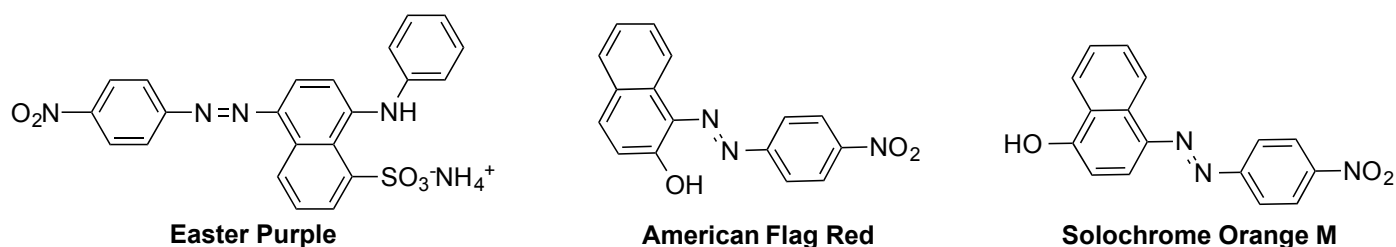

Figure 2. Examples of water-soluble azo dyes
Azo Dyes encompass the largest family of dyes. They contain an azo group, $-N=N-$, linking two aromatic rings. Because of their extended conjugated pi-orbital systems, these aromatic compounds absorb in the visible region of the electromagnetic spectrum and are deeply colored, often vibrant orange. This implies that azo dyes *absorb* relatively short wavelengths of light. TO BE USEFUL AS DYES, AZO COMPOUNDS MUST BE SOLUBLE IN WATER. This can be achieved by having polar and ionic groups attached to the aromatic rings. Sodium salts of sulfonic ($-\text{SO}_3\text{Na}$) and carboxylic ($-\text{CO}_2\text{Na}$) acids work well for this purpose. Easter purple and American flag red (AFR) are examples of ionic azo dyes (**Figure 2**). Recall that nitro (NO_2) group contain a positively charged nitrogen and negatively charged oxygen. Simple changes in substituents and substitution patterns can make significant enough changes to be noticed by the naked eye, as evidenced by the comparison of **Solochrome Orange M** to **AFR**.
3. Consider the structure of the dye **indigo** and indicate its predominant IMF (**Figure 2**). Do you expect this dye to adhere better to cotton or to polyester? Base your response on the information in #2 above.